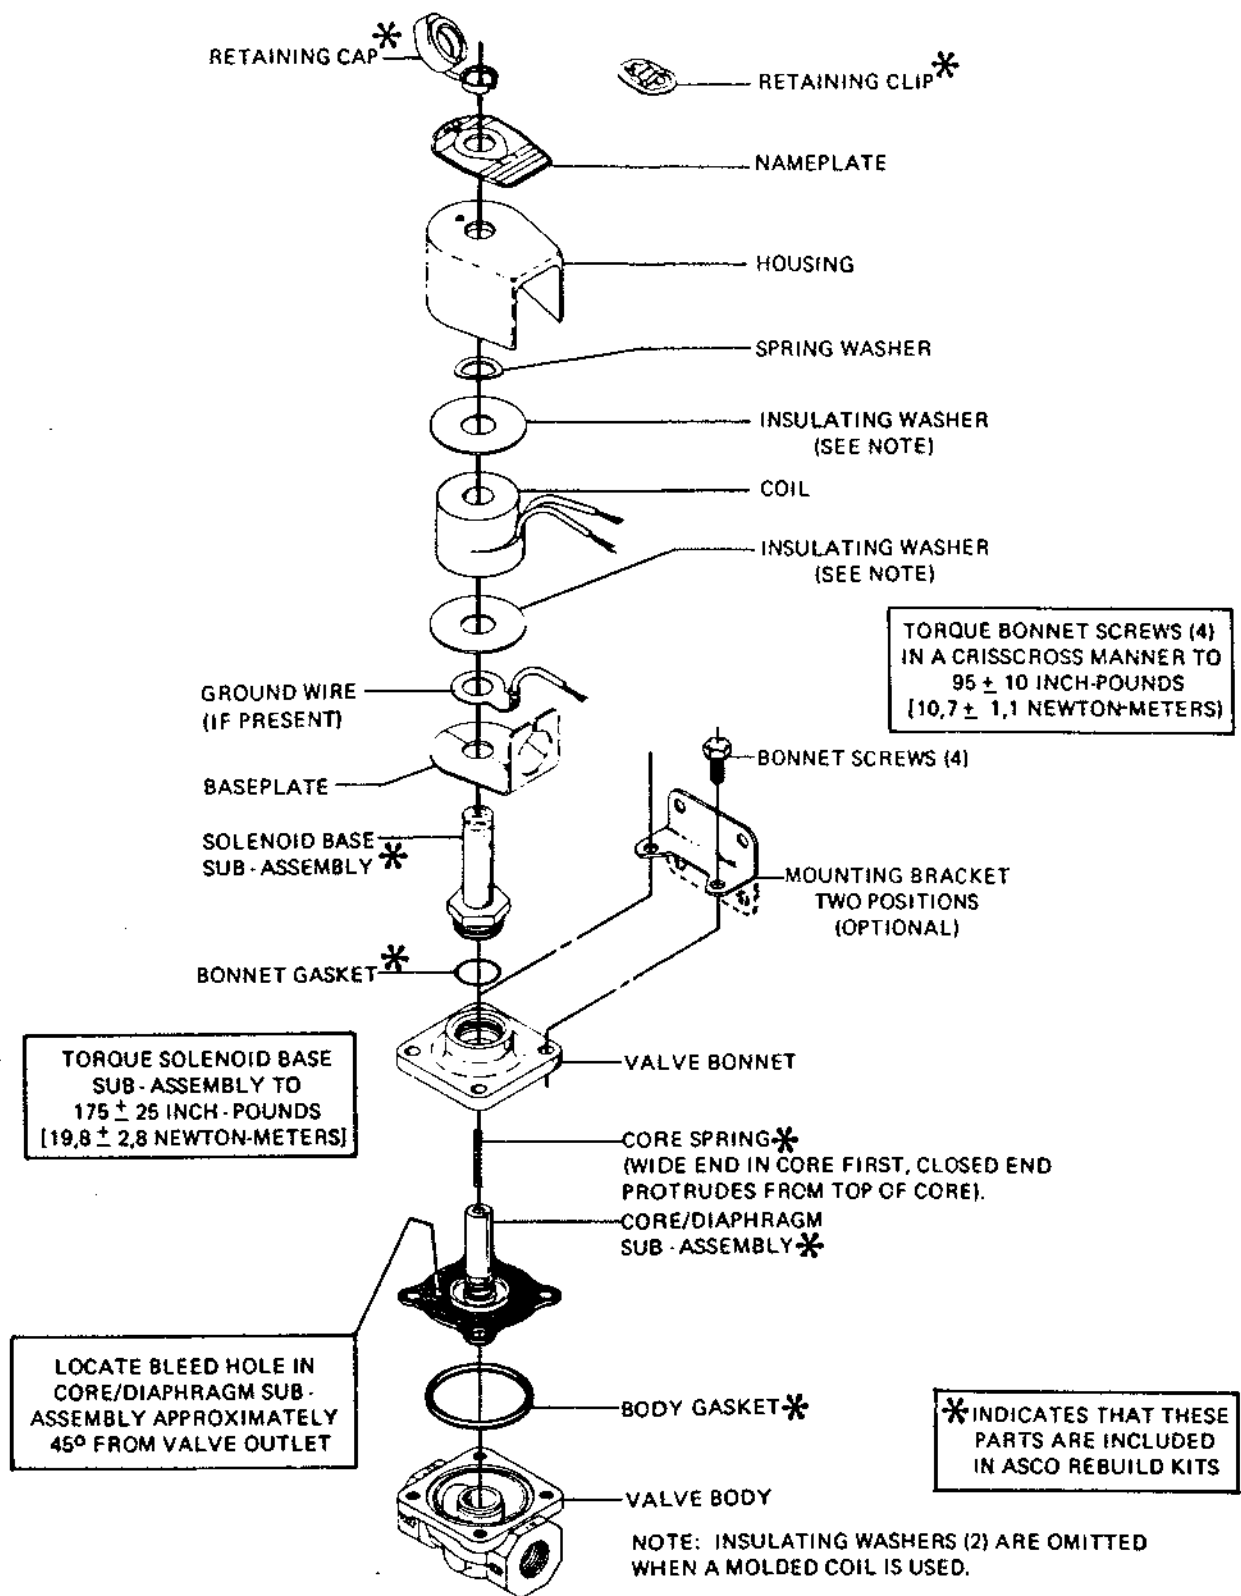
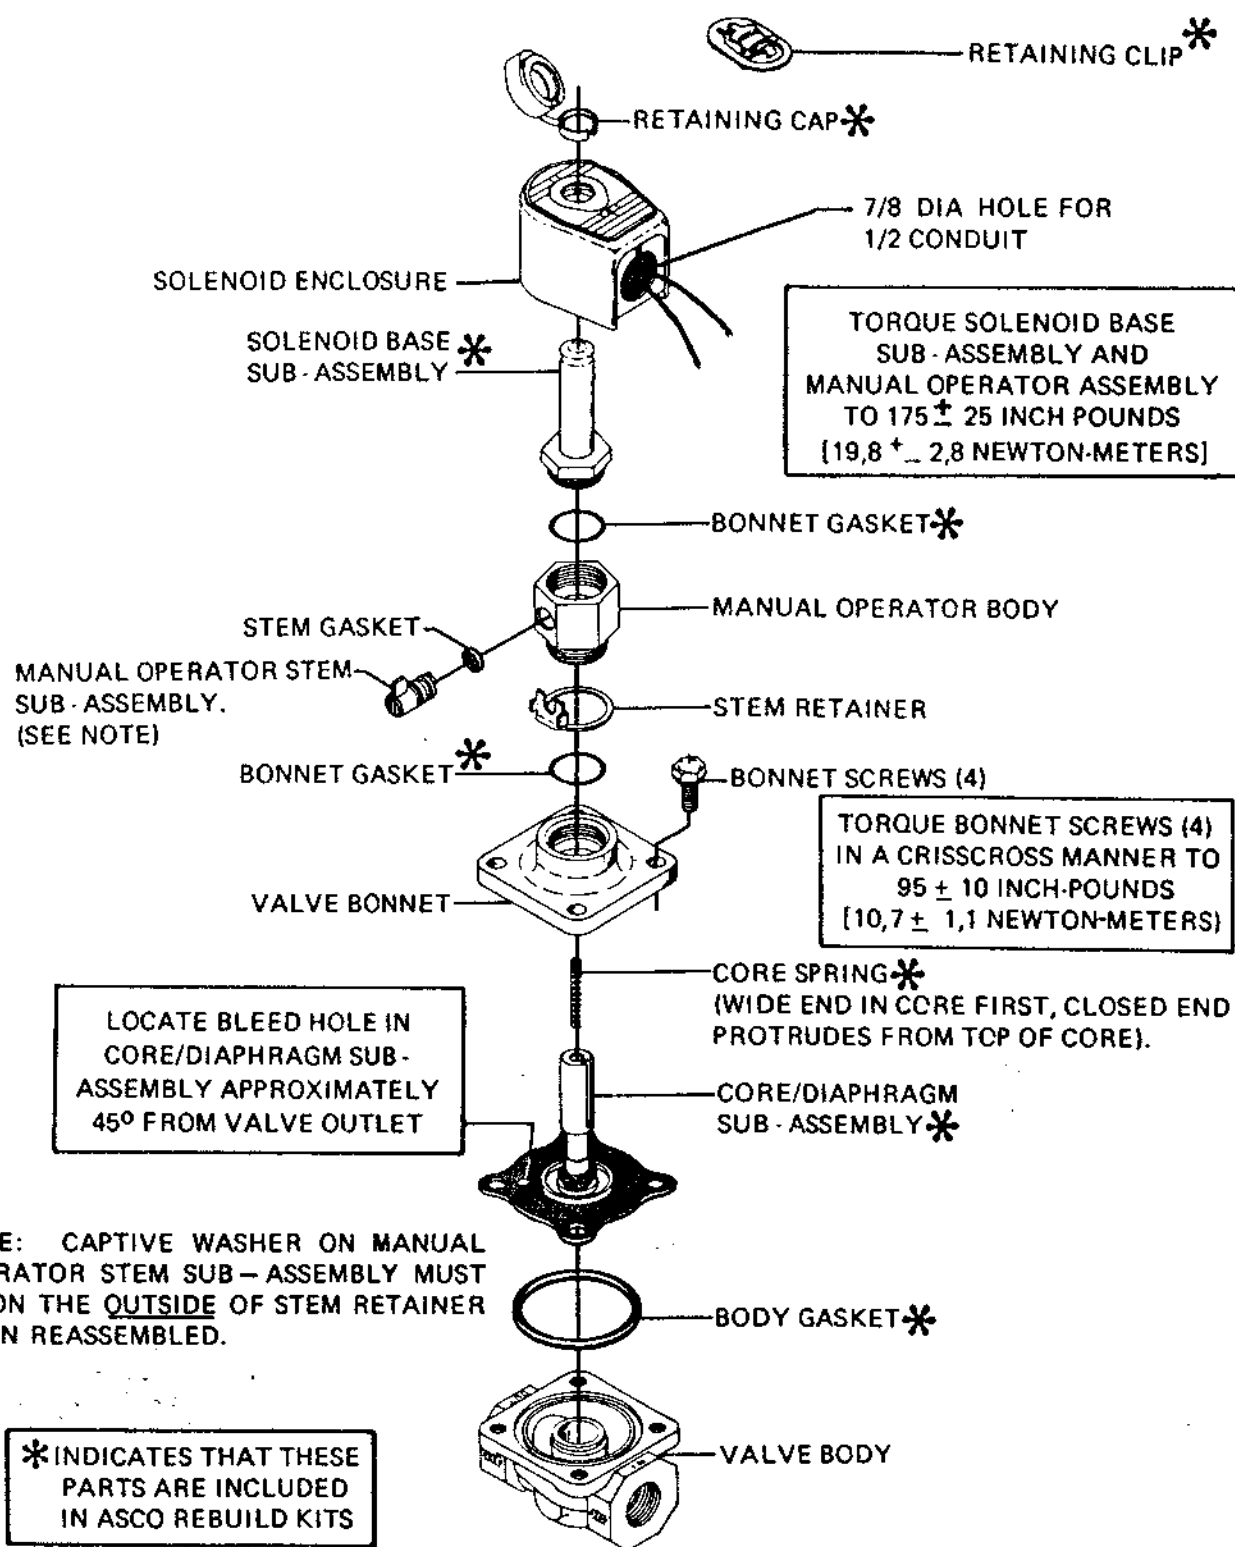

Figure 2. Bulletin 8210 - 1/2" and 3/4" NPT
Figure 3. Bulletin 8210 - Manual Operator
### Coil Replacement (Refer to Figure 2.)
**NOTE:** For valves with a manual operator (Suffix MO in catalog number) refer to Figure 3. For standard valves refer to Figure 2.
3. Remove bonnet screws (4), valve bonnet, core spring, core/diaphragm sub-assembly, and body gasket. **CAUTION:** Do not damage or distort hanger spring between core/diaphragm sub-assembly.
7. Replace valve bonnet and bonnet screws (4). Torque bonnet screws (4) in a crisscross manner to  $95 \pm 10$  inch-pounds ( $10,7 \pm 1,1$  newton-meters).